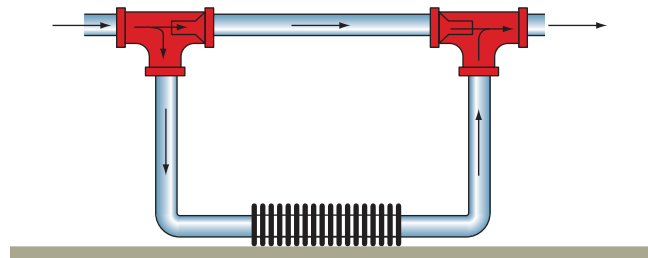

FIGURE 17-46 Two diverter tees are needed if the radiator is located below the main loop.
- ✓ If the terminal unit is located below the main hot water loop, two diverter tees should be used—one on the supply side of the terminal unit and one on the return side of the terminal unit (Fig. 17-46).